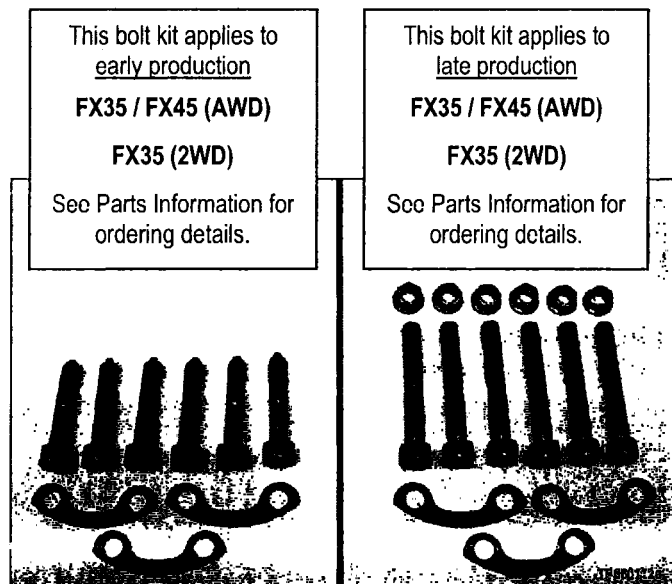

Figure 1e
- Propeller shaft bolt kit (see Figure 1e)